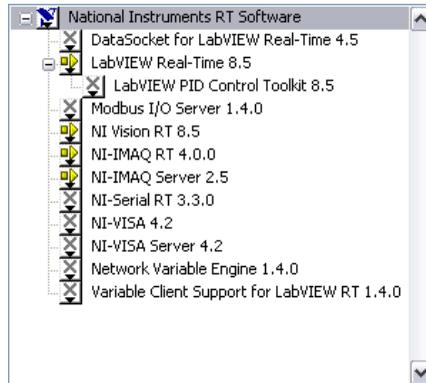

Figure 6. Selecting Software to Install in MAX
3. Select **LabVIEW Real-Time**, **NI Vision RT**, **NI-IMAQ RT**, **NI-IMAQ Server**, and any additional software necessary for your application, as shown in Figure 6.